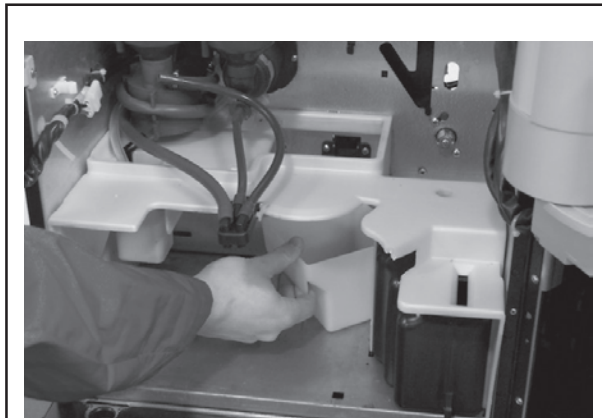

fig.48
- empty and clean the coffee residue drawer (fig.48)